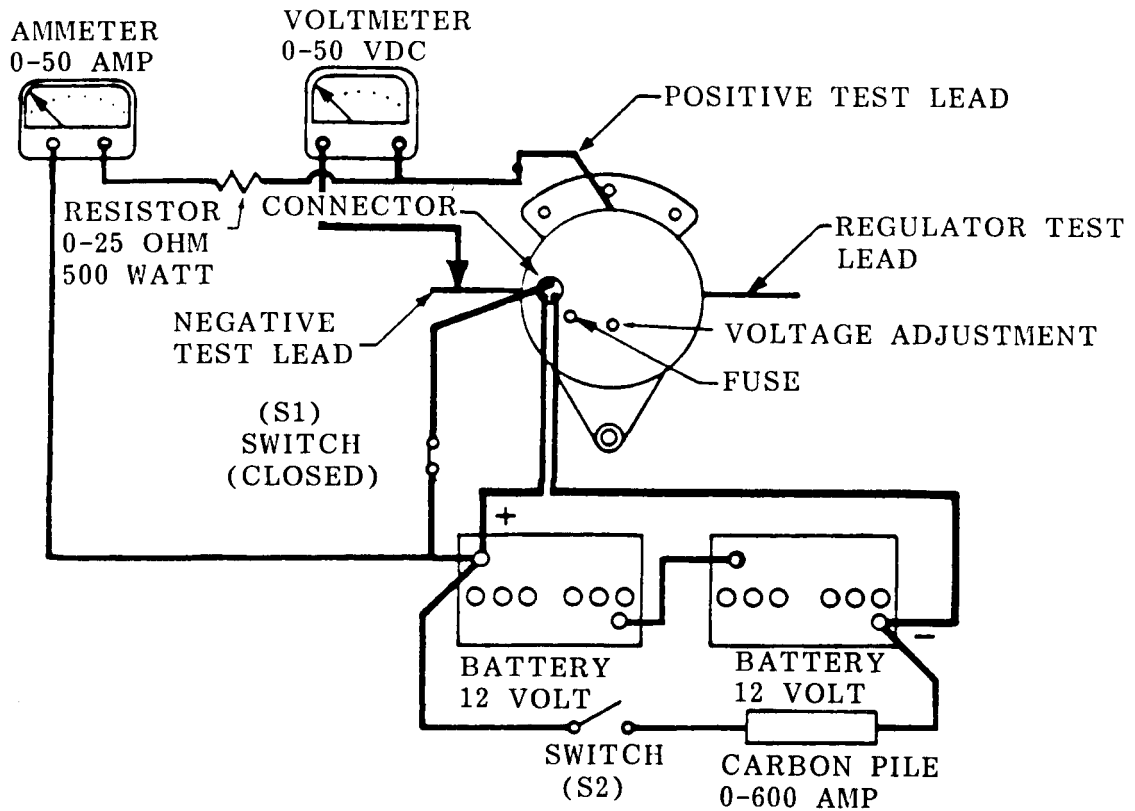

Figure 7-15. Output and Voltage Protection Test.
- (9) Conduct alternator output and voltage protector test as follows:
- (a) Install alternator in test circuit shown in figure 7-15.